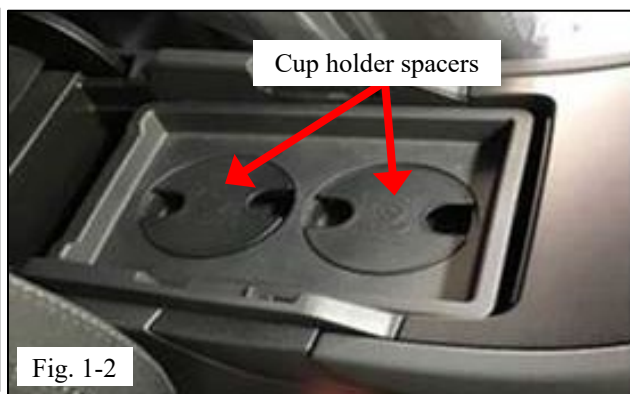

Fig. 1-2
- (b) Remove front cup holder spacers from the coin holder / tray in the console box and install them in the front cup holders (Fig. 1-2).